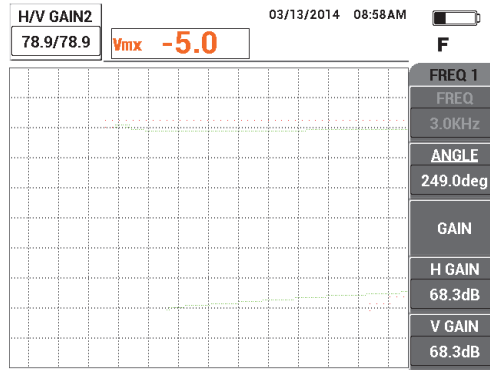

Figure 5-106 Adjusting the gain for frequency 2
9. Press the GAIN key (**dB**) three more times, and then increase the frequency 2 gain until the frequency 2 signal at position 2 is also at 20 % of the screen height (see Figure 5-106 on page 202).